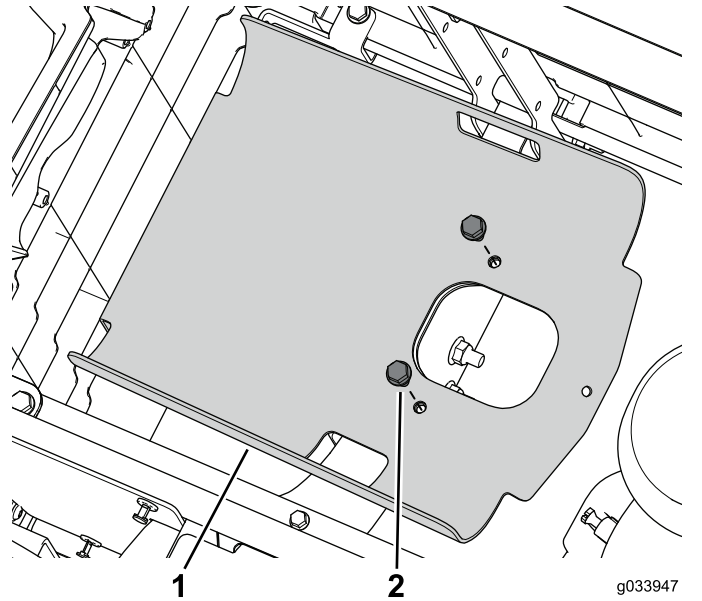

Figure 2
5. Remove the 2 flange bolts that secure the tank tray to the frame (Figure 2).